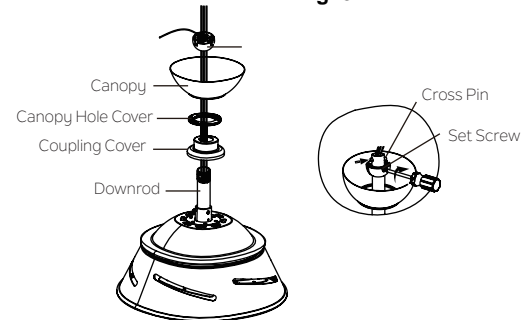

Fig. 9
Step 4. Slip the coupling cover, canopy hole cover and canopy onto the downrod. Carefully reinstall the hanger ball onto the downrod. Make sure the cross pin is in the correct position and the set screw is tight and the wires are not twisted. (Fig. 9)